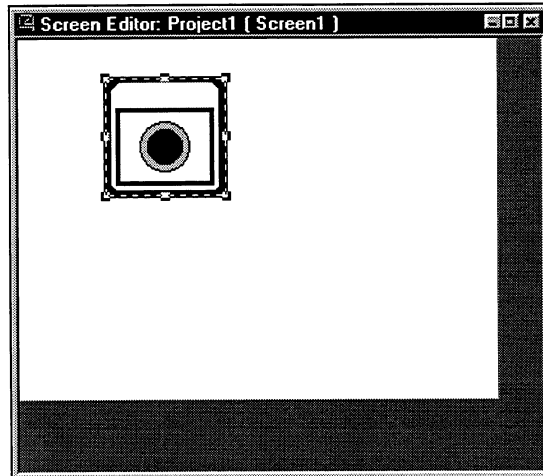

Figure 4-15. Touch Zone Example
2. Click the cursor in the top left corner of the pilot light and drag the touch zone until it is the same size as the pilot light. Then release the mouse button. The touch zone now covers the pilot light, as shown in Figure 4-15.